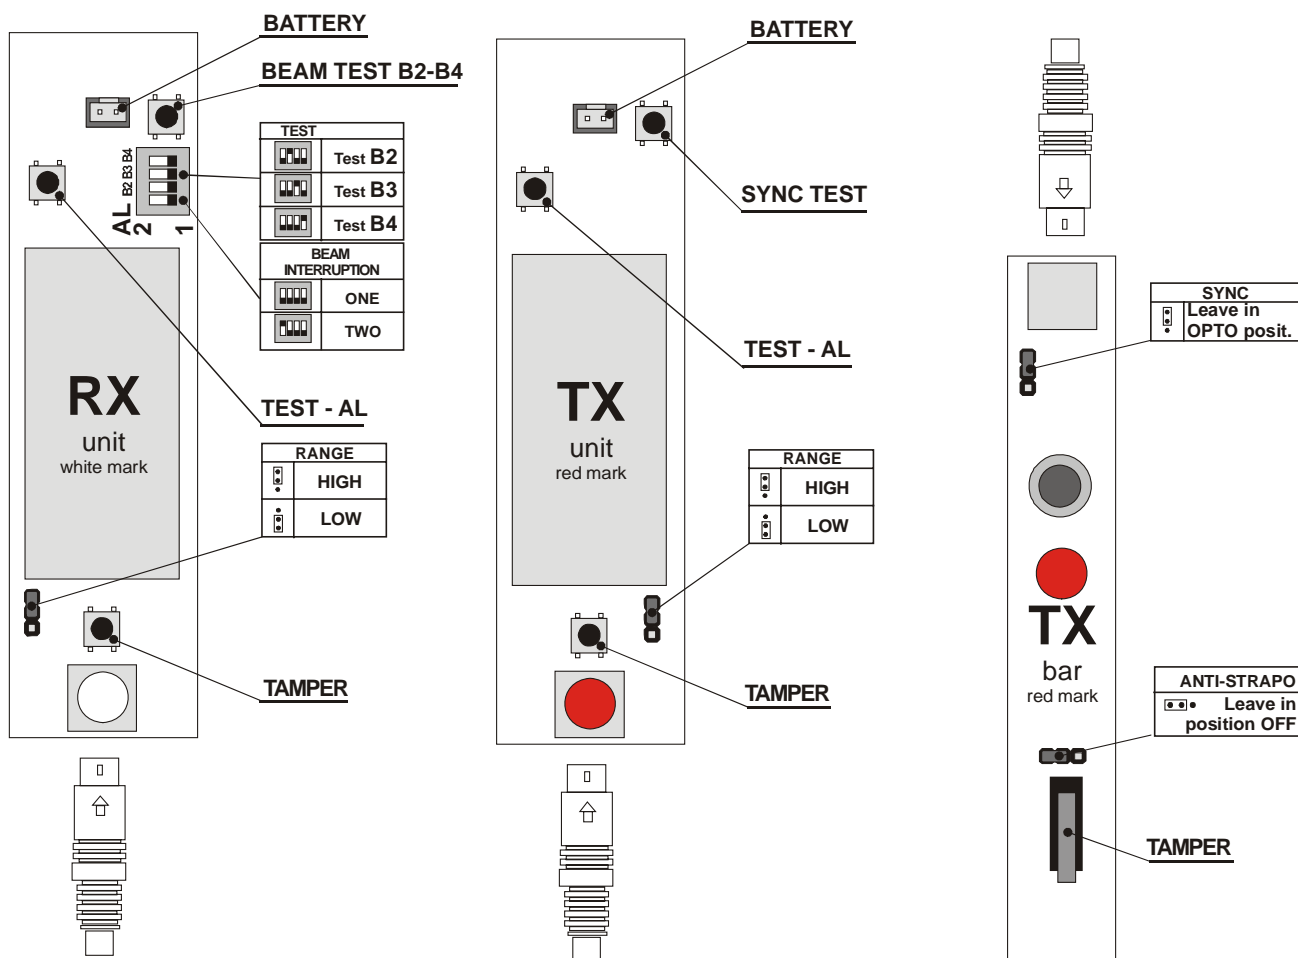

Figure 3
- Based on the distance between the bars, set the RANGE jumpers (see Figure 3) according to the following table:
11. For correct functioning of the tamper positioned in the bars, check that the ANTI-STRAPO jumper (see Figure 3) is in the OFF position. A tamper of the RX unit is reported to the system as a tamper alarm and a tamper of the TX unit is reported as activation of the detector (instant or delay zone).